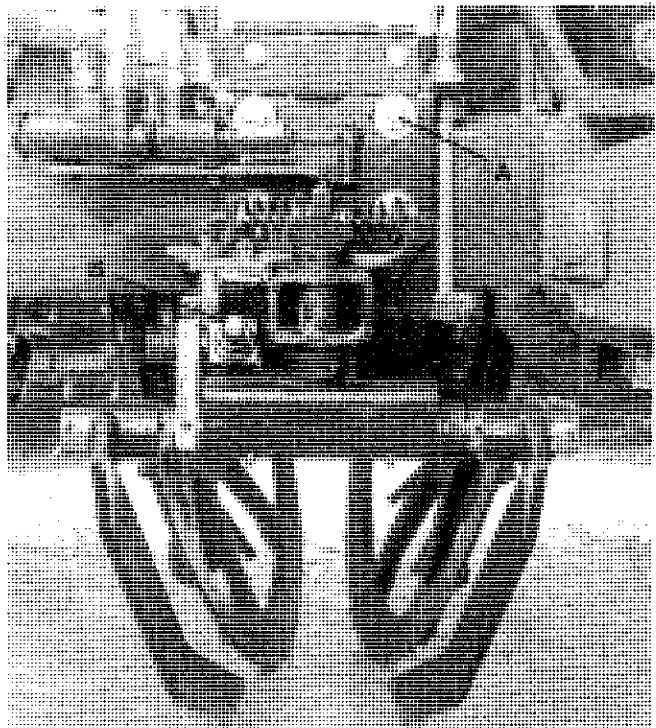

FIGURE 63 - ROW FINDER HEIGHT ADJUSTMENT
The feeler arms must be centered with the gap between the lifter wheels to function accurately. Do this by loosening bolts (A) and sliding the entire assembly in the mounting slots until centered. Tighten bolts (see figure 63).
finder assembly to the support plate. Bolt the row finder to the holes which provide the desired operating height (see figure 63).